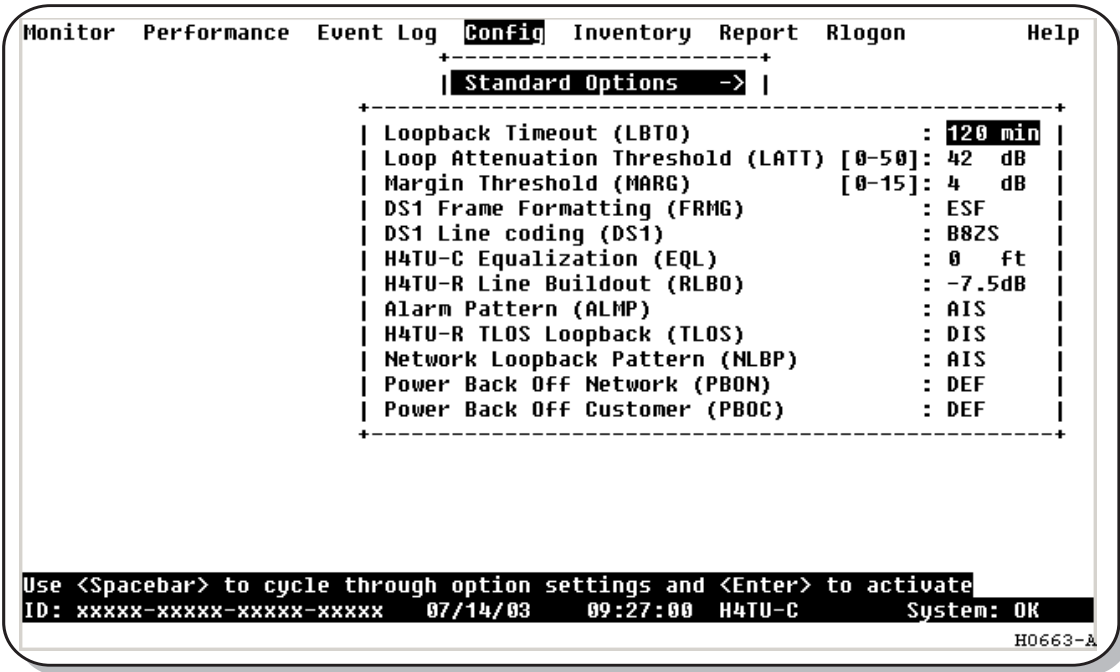
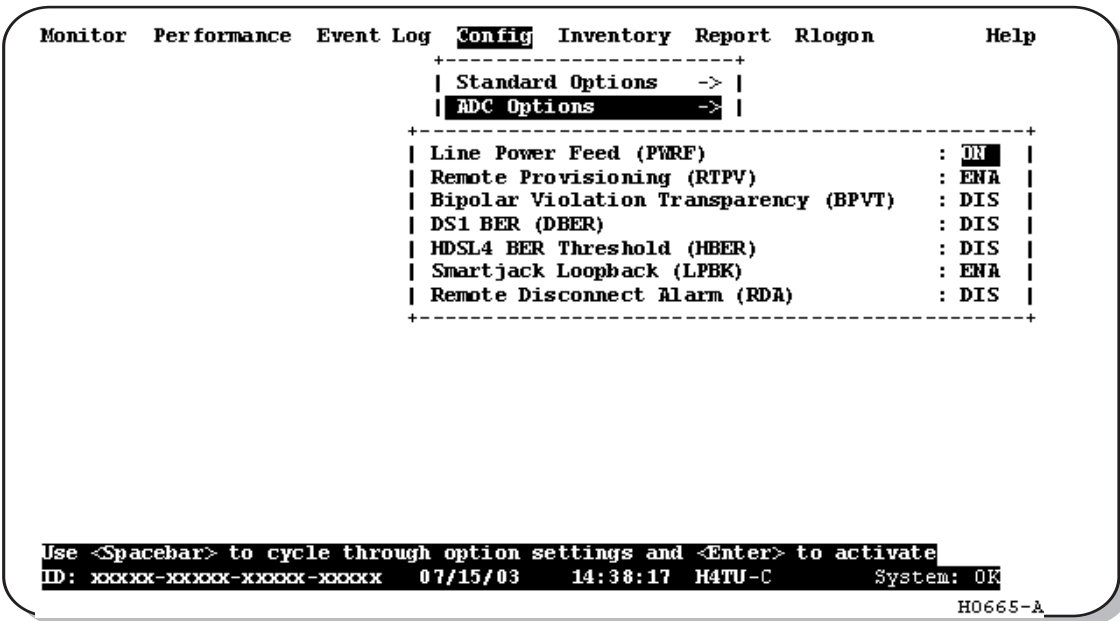

Figure 7. Config Menu - Standard Options (defaults shown)
Figure 8. Config Menu - ADC Options (defaults shown)
- Standard options (see Figure 7 on page 14).
- ADC options (see Figure 8 on page 14).
Figure 7 on page 14 and Figure 8 on page 14 show the Standard and ADC configuration options. Standard options are those supported by HiGain HD4SL4 units when connected to units from other vendors. ADC options are an extended set of options that are only available when using HiGain units exclusively.